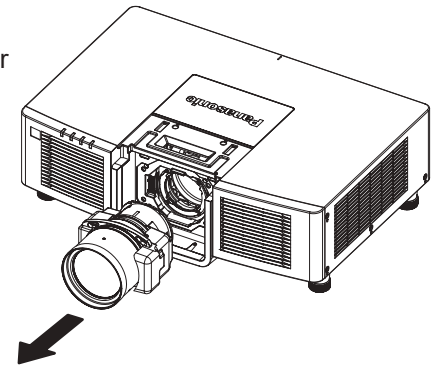

Fig. 5
**4) Remove the projection lens. (Fig. 5)**